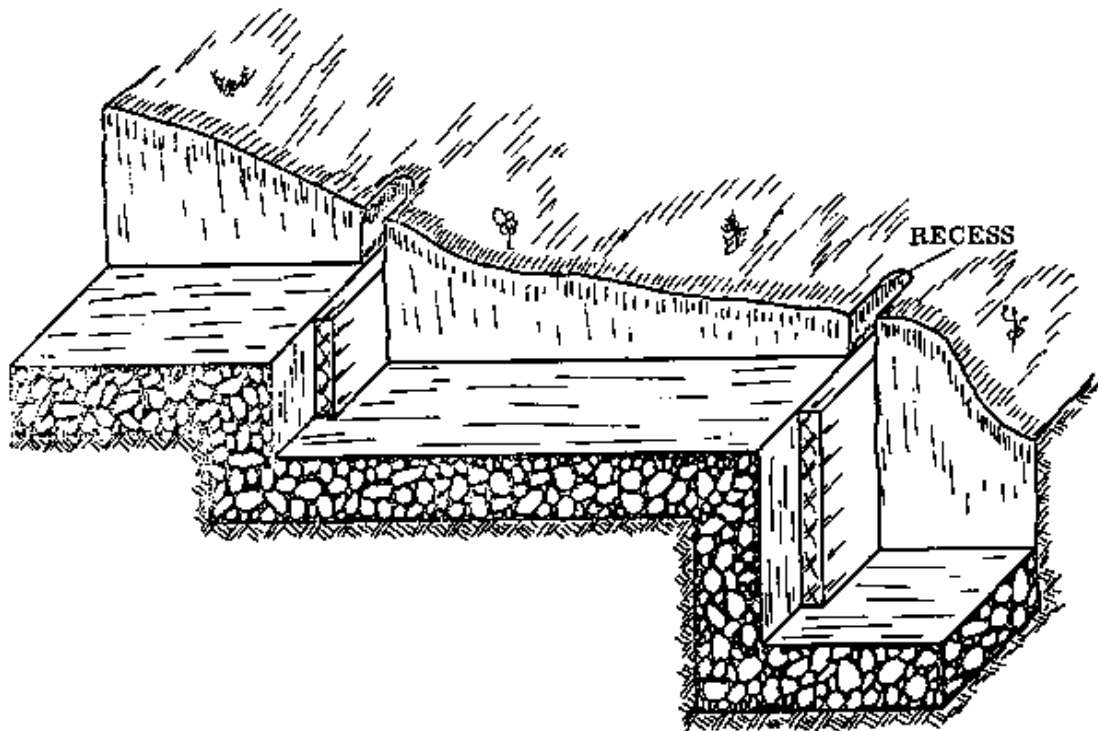

Fig. 2 CASTING A STEPPED FOUNDATION
- STEPPED FOUNDATION: In casting the vertical parts of a stepped foundation, pieces of board are used as shown in Fig. 2. These are fitted into recesses cut in the side of the trench. The width of the board is the same as the height of the step (Fig. 2).